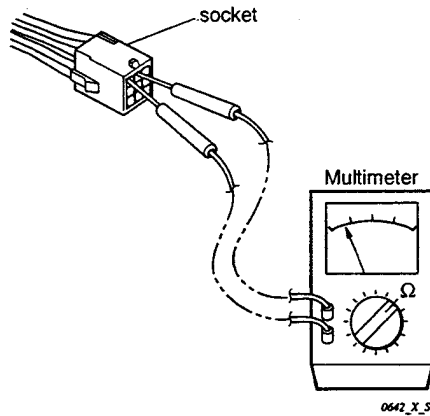

Fig. 10
**(2) Checking the Protective Devices**
- Then check continuity among plug's (and/or socket's) terminal as in Fig. 10.